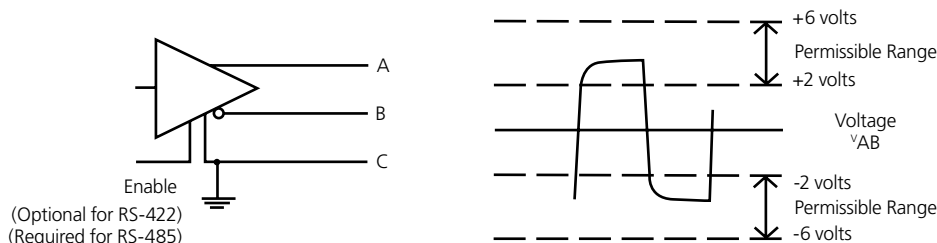

Figure 1-2
In a balanced differential system, the voltage produced by the driver appears across a pair of signal lines that transmit only one signal. Figure 1-2 shows a schematic symbol for a balanced line driver and the voltages that exist. A balanced line driver will produce a voltage from 2 to 6 volts across its A and B output terminals and will have a signal ground (C) connection. Although proper connection to the signal ground is important, it isn't used by a balanced line receiver in determining the logic state of the data line. A balanced line driver can also have an input signal called an Enable signal. The purpose of this signal is to connect the driver to its output terminals, A and B. If the Enable signal is OFF, the driver is considered to be disconnected from the transmission line. An RS-485 driver must have the Enable control signal. An RS-422 driver may have this signal, but it is not always required. The disconnected or disabled condition of the line driver usually is referred to as the tristate¹ condition of the driver.